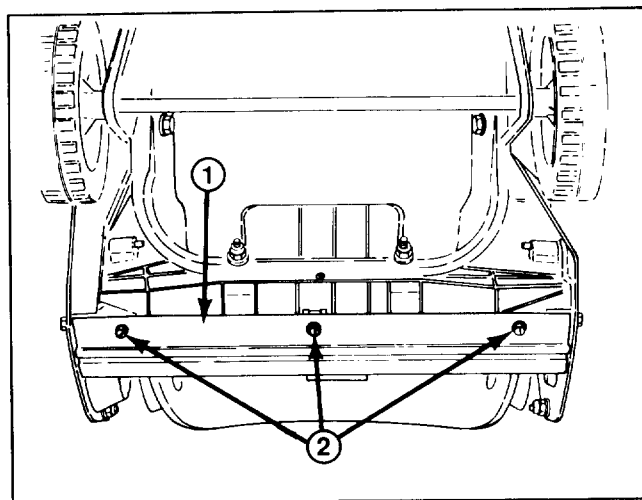

Figure 10
3. Remove (3) screws holding scraper in place (Fig. 10). Remove scraper.
4. Secure new scraper to housing with (3) screws.